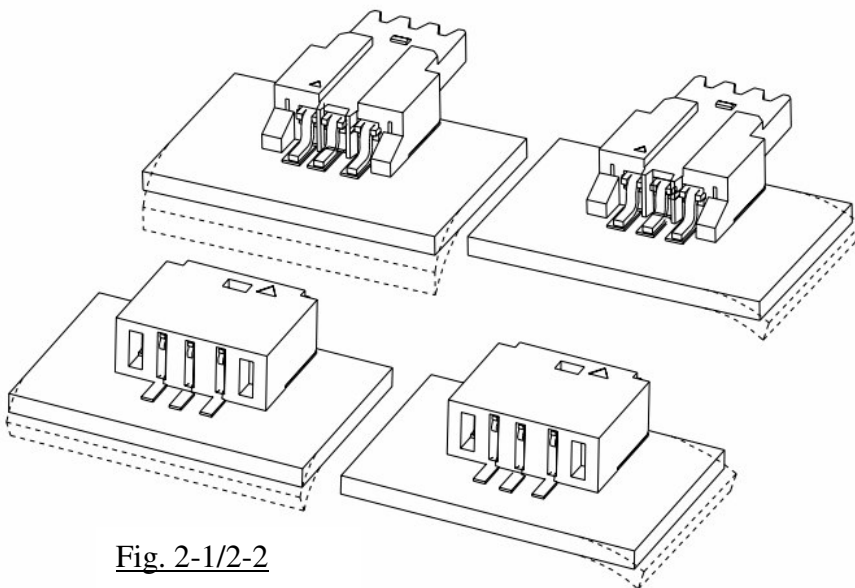

Fig. 2-1/2-2
- That might cause soldering crack by soldering failure and aging stress. (fig. 2-1/2-2)